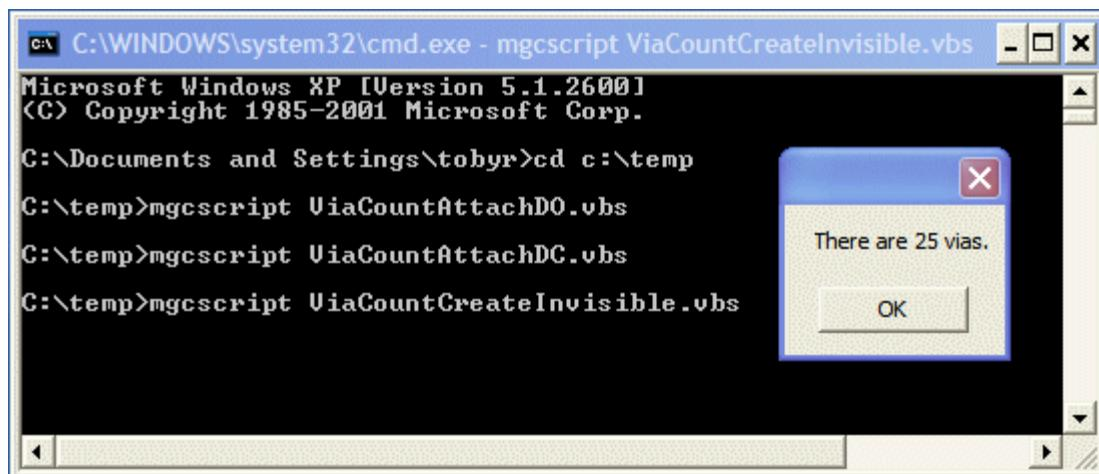

Figure 8-28. Running a script that automatically launches the application.
- 2) Open a Console/Terminal window, set the context to your C:\Temp folder, run your *ViaCountCreateInvisible.vbs* script, and observe the results as shown in Figure 8-28.